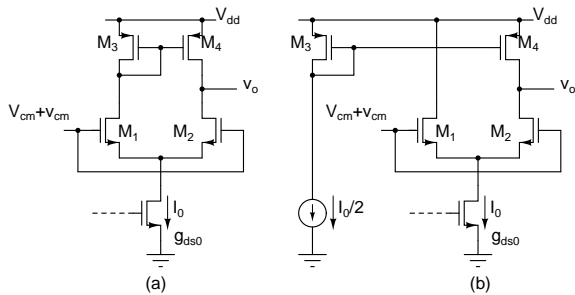

Figure 1:
- The common mode gain of a differential amplifier is measured by applying a small signal common mode input v_{cm} as shown in Fig. 1. Fig. 1(a) has a current mirror load and Fig. 1(b) has a current source load which is independently biased. What is the common mode gain of these two configurations? Express the answer in terms of the small signal parameters of: M_0 (g_{m0} , g_{ds0}), $M_{1,2}$ (g_{m0} , $g_{ds1} = \infty$), $M_{3,4}$ (g_{m3} , g_{ds3})